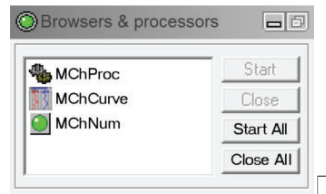

Figure 4-18 Browsers & processors panel
9. □ Close out of the **Calibration Settings** window. On the **Browsers & processors** panel, click **Close All** and then click **Start All**. This should close all windows on the screen and then open them again, to reinitialize the other Browsers/Processors (**Figure 4-18**).